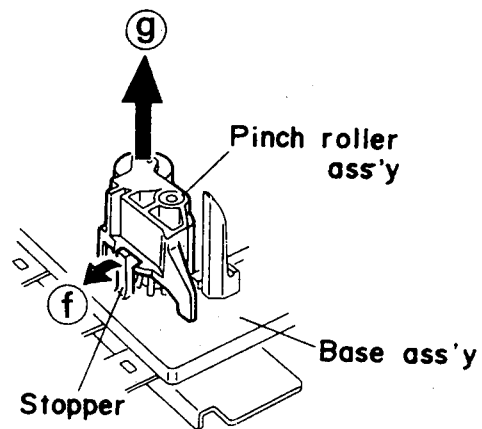

Fig. 2-38
■ Pinch roller assembly (Fig. 2-38)